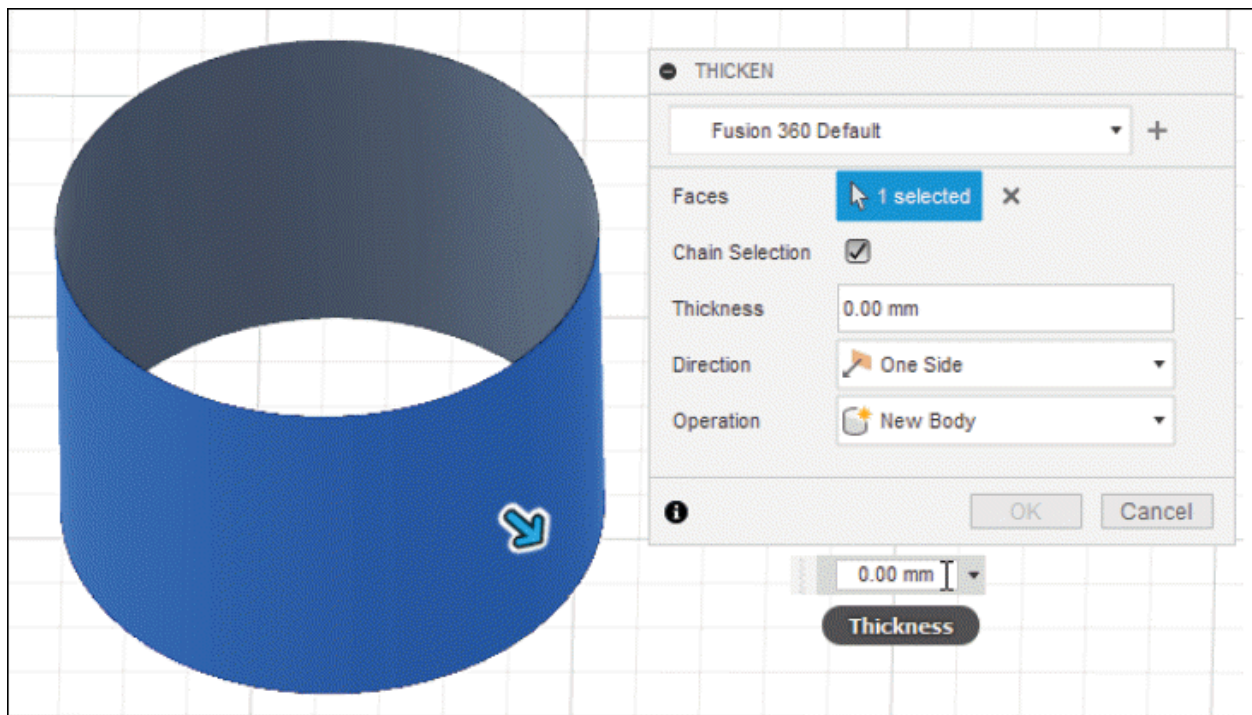

Figure-116. Selection of faces to add thickness
- **Faces** selection is active by default. Select the surface to add thickness; refer to Figure-116.